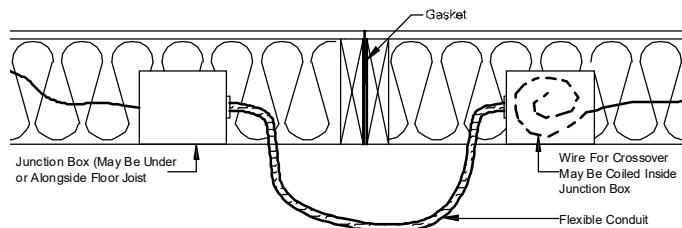

Figure 58. Under the rim joist electrical crossover connection with conduit
- Connect wires.** If wire is coiled inside one junction box, insert it into provided flexible conduit and pass it under the rim joists to the opposing box and make the connection as described above. If no coiled wire is provided, install provided ship-loose conduit with wire making connections in both boxes (Figure 58).